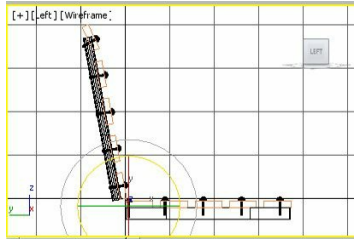

Figure 2-91 *Rotating rivet in the Left viewport*
11. Select the rivet which is near *horizontal back support* and choose the **Select and Rotate** tool. Move the cursor over the Z-axis. Now, press the left mouse button and drag the cursor in the clockwise direction to rotate it until the angle of rotation in the **Z** spinner in the coordinate display becomes around **-15**, refer to Figure 2-91.